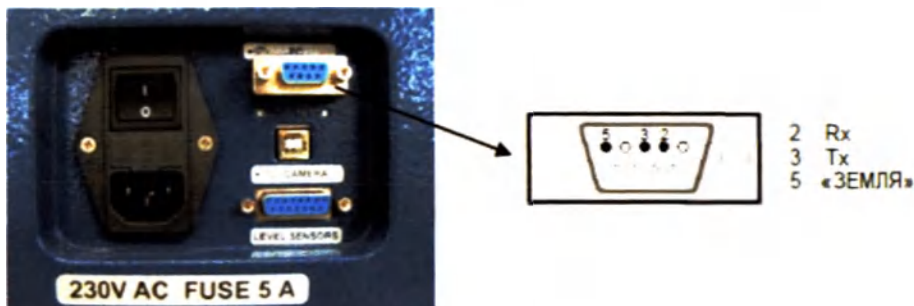

Figure 8
7.12 The analyzer is equipped with an RS232 serial port for connecting a personal computer (Figure 8). The serial cable has two 9-pin connectors for direct connection.